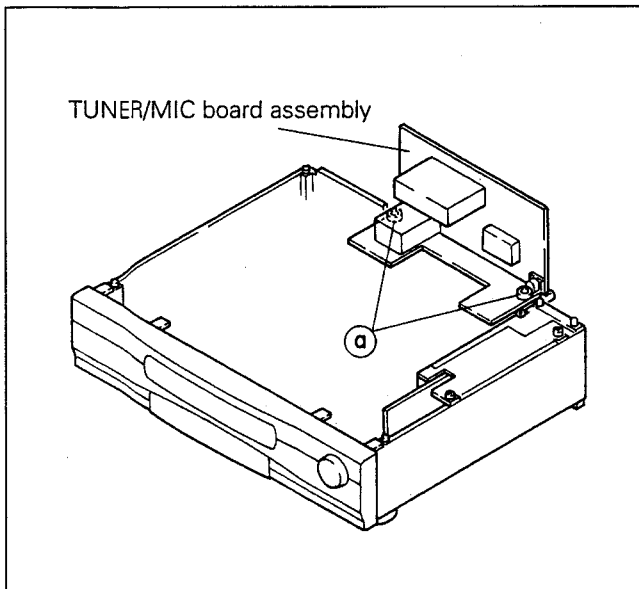

Fig. 1-4B TUNER/MIC board assembly-2
4. For check and repairs, set up the TUNER/MIC board assembly to rear of chassis at (a) positions as shown in Fig. 1-4B.